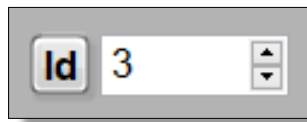

Figure 111 – Control for the selection of specimen registration data.
- To use the data from the specimen register, change the control index shown in Fig. 111 by clicking the arrows or typing. The registration data will be entered in the ""SPECIMEN DATA"" fields.